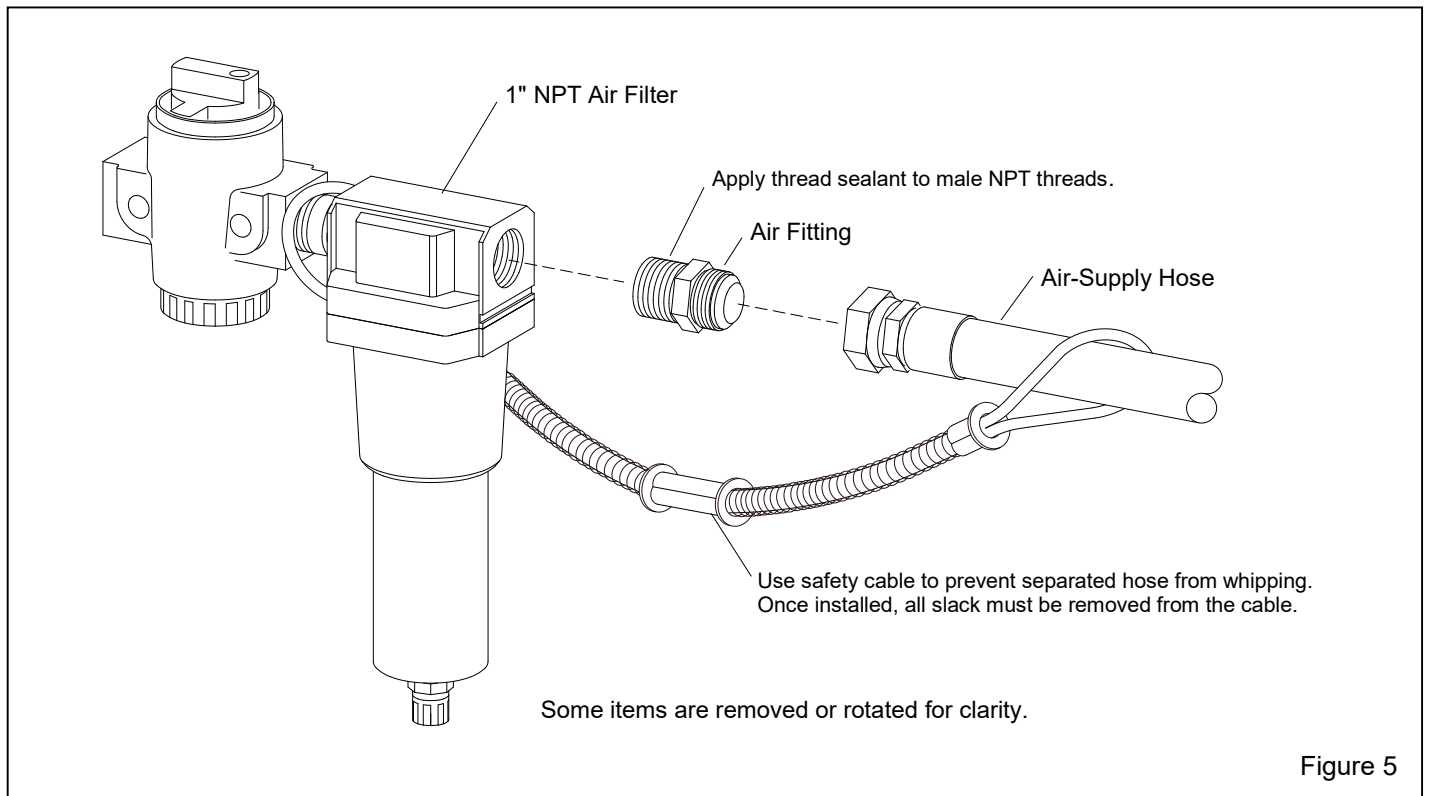

Figure 5
2.3 Connect Compressed-Air Supply Line Figure 5
2.3.2 Refer to Paragraph 2.3.3 to determine the recommended air-supply hose size, then refer to Figure 5 and install a compatible fitting to the compressed-air filter located on the back of the cabinet. The style of connection shown in Figure 5 is for reference only.